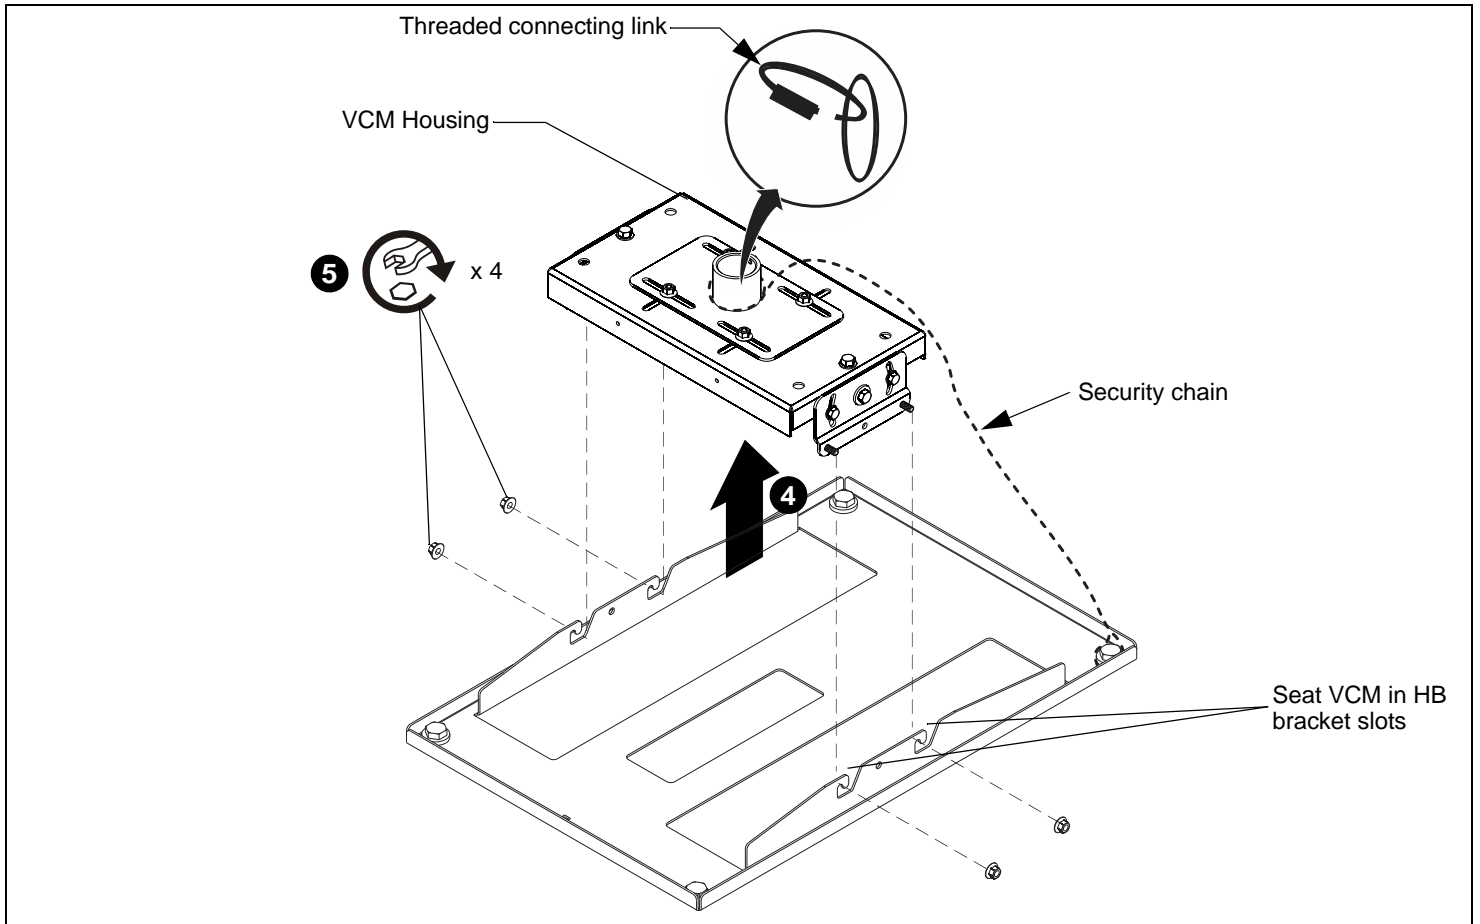

Figure 2
5. With help of assistants, lift the projector and install it to the four studs extending from the VCM housing. Ensure that the VCM housing is seated in slots on HB bracket. (See Figure 2)
6. Tighten the four 5/16" flange nuts. (See Figure 2)
8. Wrap the free end of the security chain around the column above the VCM housing, fastening the threaded connecting link through another link in the chain and tightening the connection. (See Figure 2)